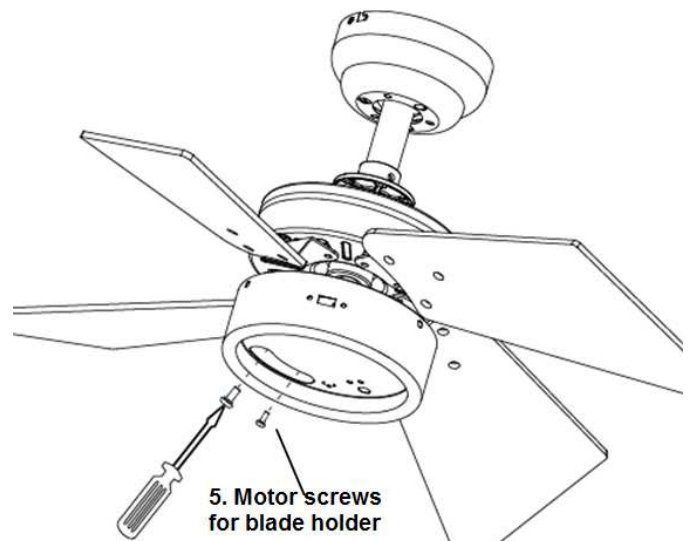

Fig. 6
2. Secure the blade holder on the motor by using two motor screws (5) with washers to tighten it ensuring they are tightened simultaneously. (Fig.6). Once completed, repeat the process on remaining blades.